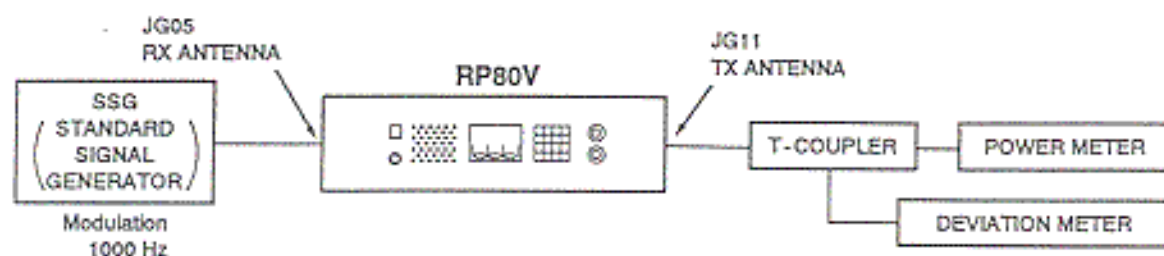

Figure 6-5 Repeater deviation alignment
- Connect the measuring instruments as shown in Figure 6-5.